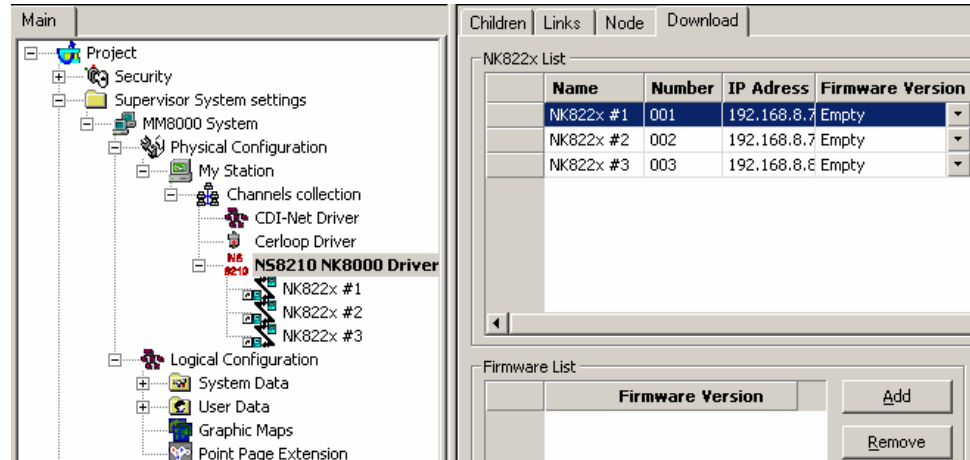

Fig. 6 'Download' tab
4. Select the 'NS8210 driver' node and then the 'Download' tab (Fig. 6).
- select → Supervision System Settings → MM8000 System → Physical configuration → Station (or FEP) → Channel collection → NK8210 driver → see Fig. 6 above